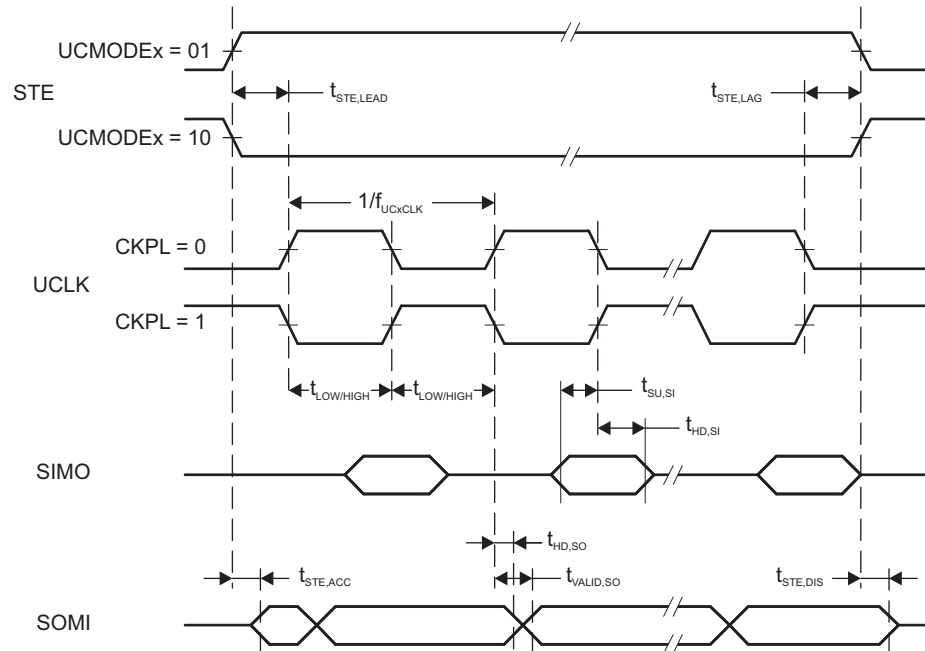
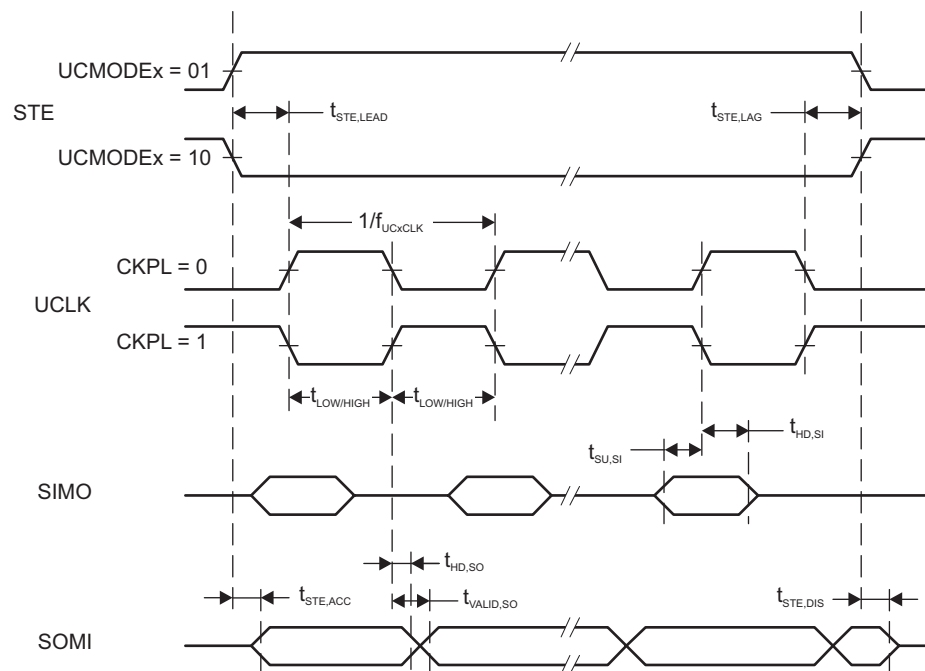

Figure 5-15. SPI Slave Mode, CKPH = 0
Figure 5-16. SPI Slave Mode, CKPH = 1
- (1) $f_{UCXCLK} = 1/2t_{LO/HI}$ with $t_{LO/HI} \geq \max(t_{VALID,MO(Master)} + t_{SU,SI(eUSCI)}, t_{SU,MI(Master)} + t_{VALID,SO(eUSCI)})$. For the master parameters $t_{SU,MI(Master)}$ and $t_{VALID,MO(Master)}$, see the SPI parameters of the attached master.
- (2) Specifies the time to drive the next valid data to the SOMI output after the output changing UCLK clock edge. See the timing diagrams in Figure 5-15 and Figure 5-16.
- (3) Specifies how long data on the SOMI output is valid after the output changing UCLK clock edge. Refer to the timing diagrams in Figure 5-15 and Figure 5-16.